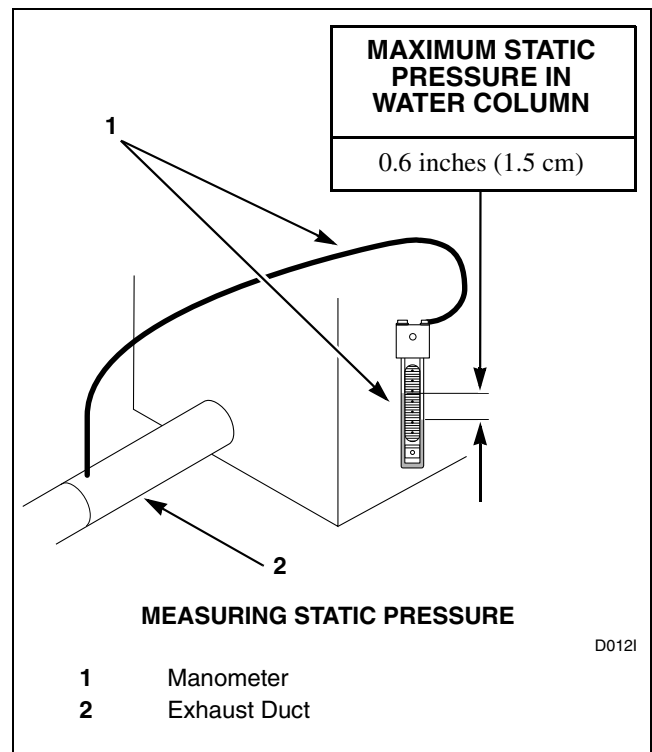

Figure 45
Static pressure in the dryer's exhaust duct should be no greater than that shown in *Figure 45*. (Check with dryer running and no load.)
**NOTE: This can be measured with a manometer placed on the exhaust duct approximately 2 ft. (61 cm) from the dryer. Refer to *Figure 45*.**